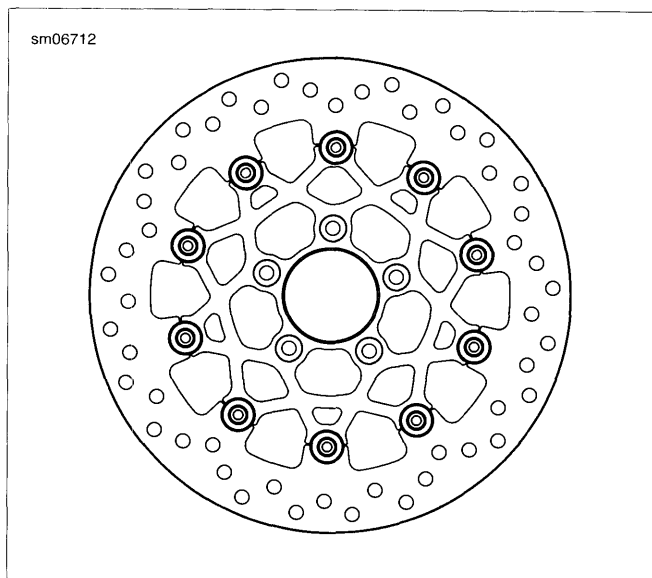

Figure 2-7. XR 1200X Front Brake Disc
**XR 1200X Model:** See Figure 2-7. XR 1200X models are equipped with a floating front brake rotor. They are non-directional and do not need to be matched with opposite rotor.